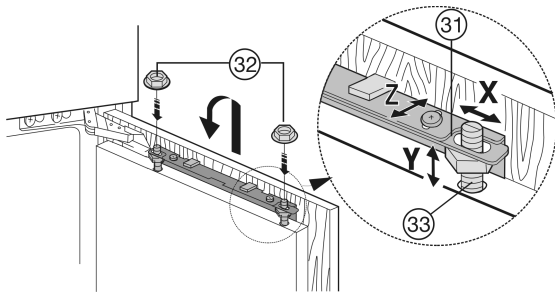

Fig. 23
- ▶ Attach the unit door on the adjusting bolts *Fig. 23 (33)* and loosely screw the locknuts *Fig. 23 (32)* onto the adjusting bolts.
- ▶ To align the unit door in height and in lateral inclination: Adjust the adjusting bolts *Fig. 23 (33)* with a screwdriver.
- ▶ Tighten the locknuts *Fig. 23 (32)*.